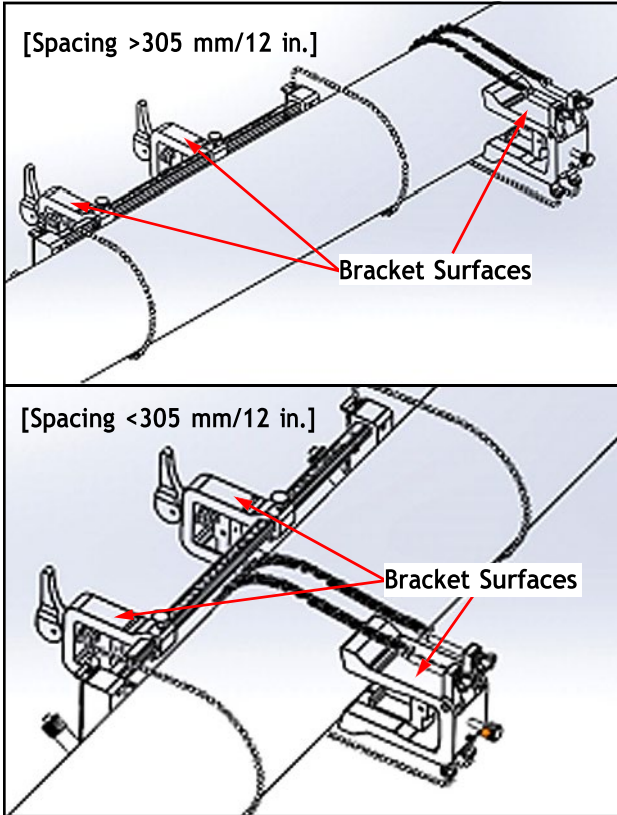

Figure 28: Yoke Rotated into Horizontal Position
4. Rotate the yoke until it is located in a horizontal position on the opposite side of the pipe from the previously installed clamping fixture, as shown in Figure 28 below.
5. Ensure that the top surfaces of the yoke bracket and the clamping fixture brackets lie precisely in the same horizontal plane (see Figure 28 above). Place the fixed clamp in the clamping fixture at zero on the scale.